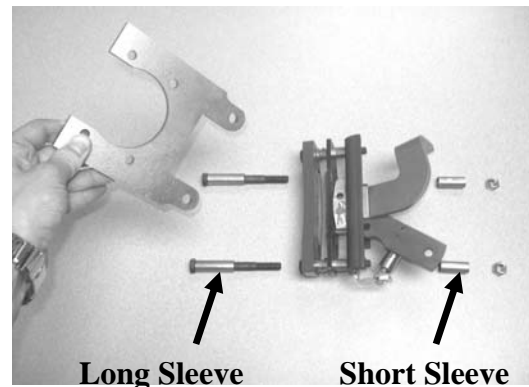

Fig 5 – remove mount bracket
5. On each new caliper assembly, remove the mounting bracket by removing the bolts and spacer sleeves. (See Fig 5)